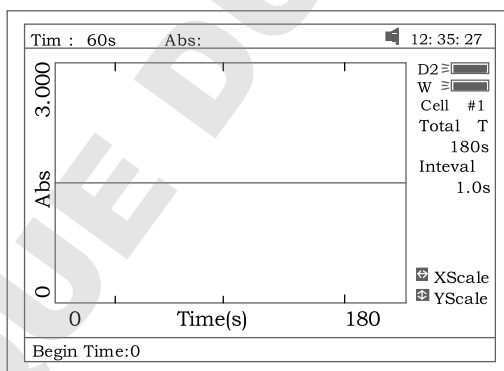
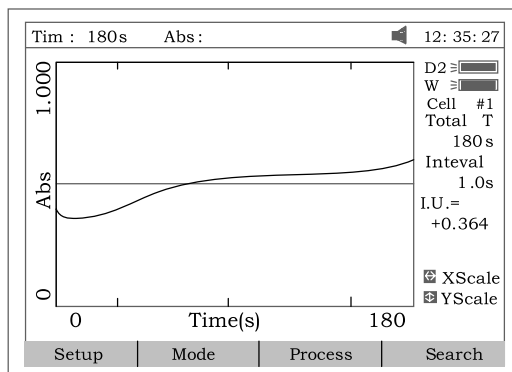

Fig 56
Fig 57
5. Press **[F3]** to process the data, and enter “Begin Time”, “End Time” and “Factor” (Fig 56) and the value in I.U. will be calculated and displayed (Fig 57). The average straight line between the Begin Time and End Time will be calculated. The gradient of this line gives the rate of change of  $\Delta A/\text{min}$ .